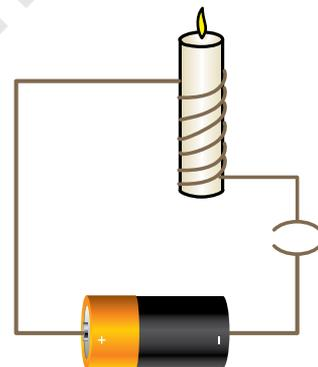

Figure 44.1
2. Connect any one end of this wire with the positive terminal of the battery and complete the electric circuit as shown in Fig. 44.1.